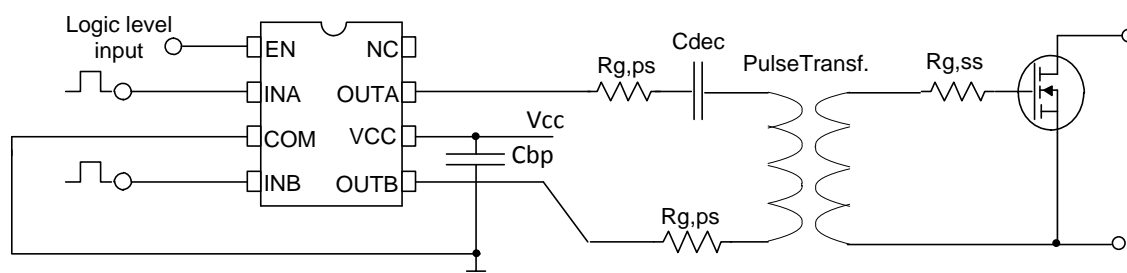

Figure 2: Bridge Tied Gate Driver configuration
This is a popular configuration that allows driving high side Fets using a low side gate driver, the Fig. 2 shows the typical schematic for a single Fet drive:
- $V \cdot \mu\text{s}$  ratings: this factor must be respected, in bipolar drive application (like the one shown in Fig.2) a maximum of up to twice that parameter is still acceptable for most manufacturers, this factor then must be chosen accordingly to the following formula: